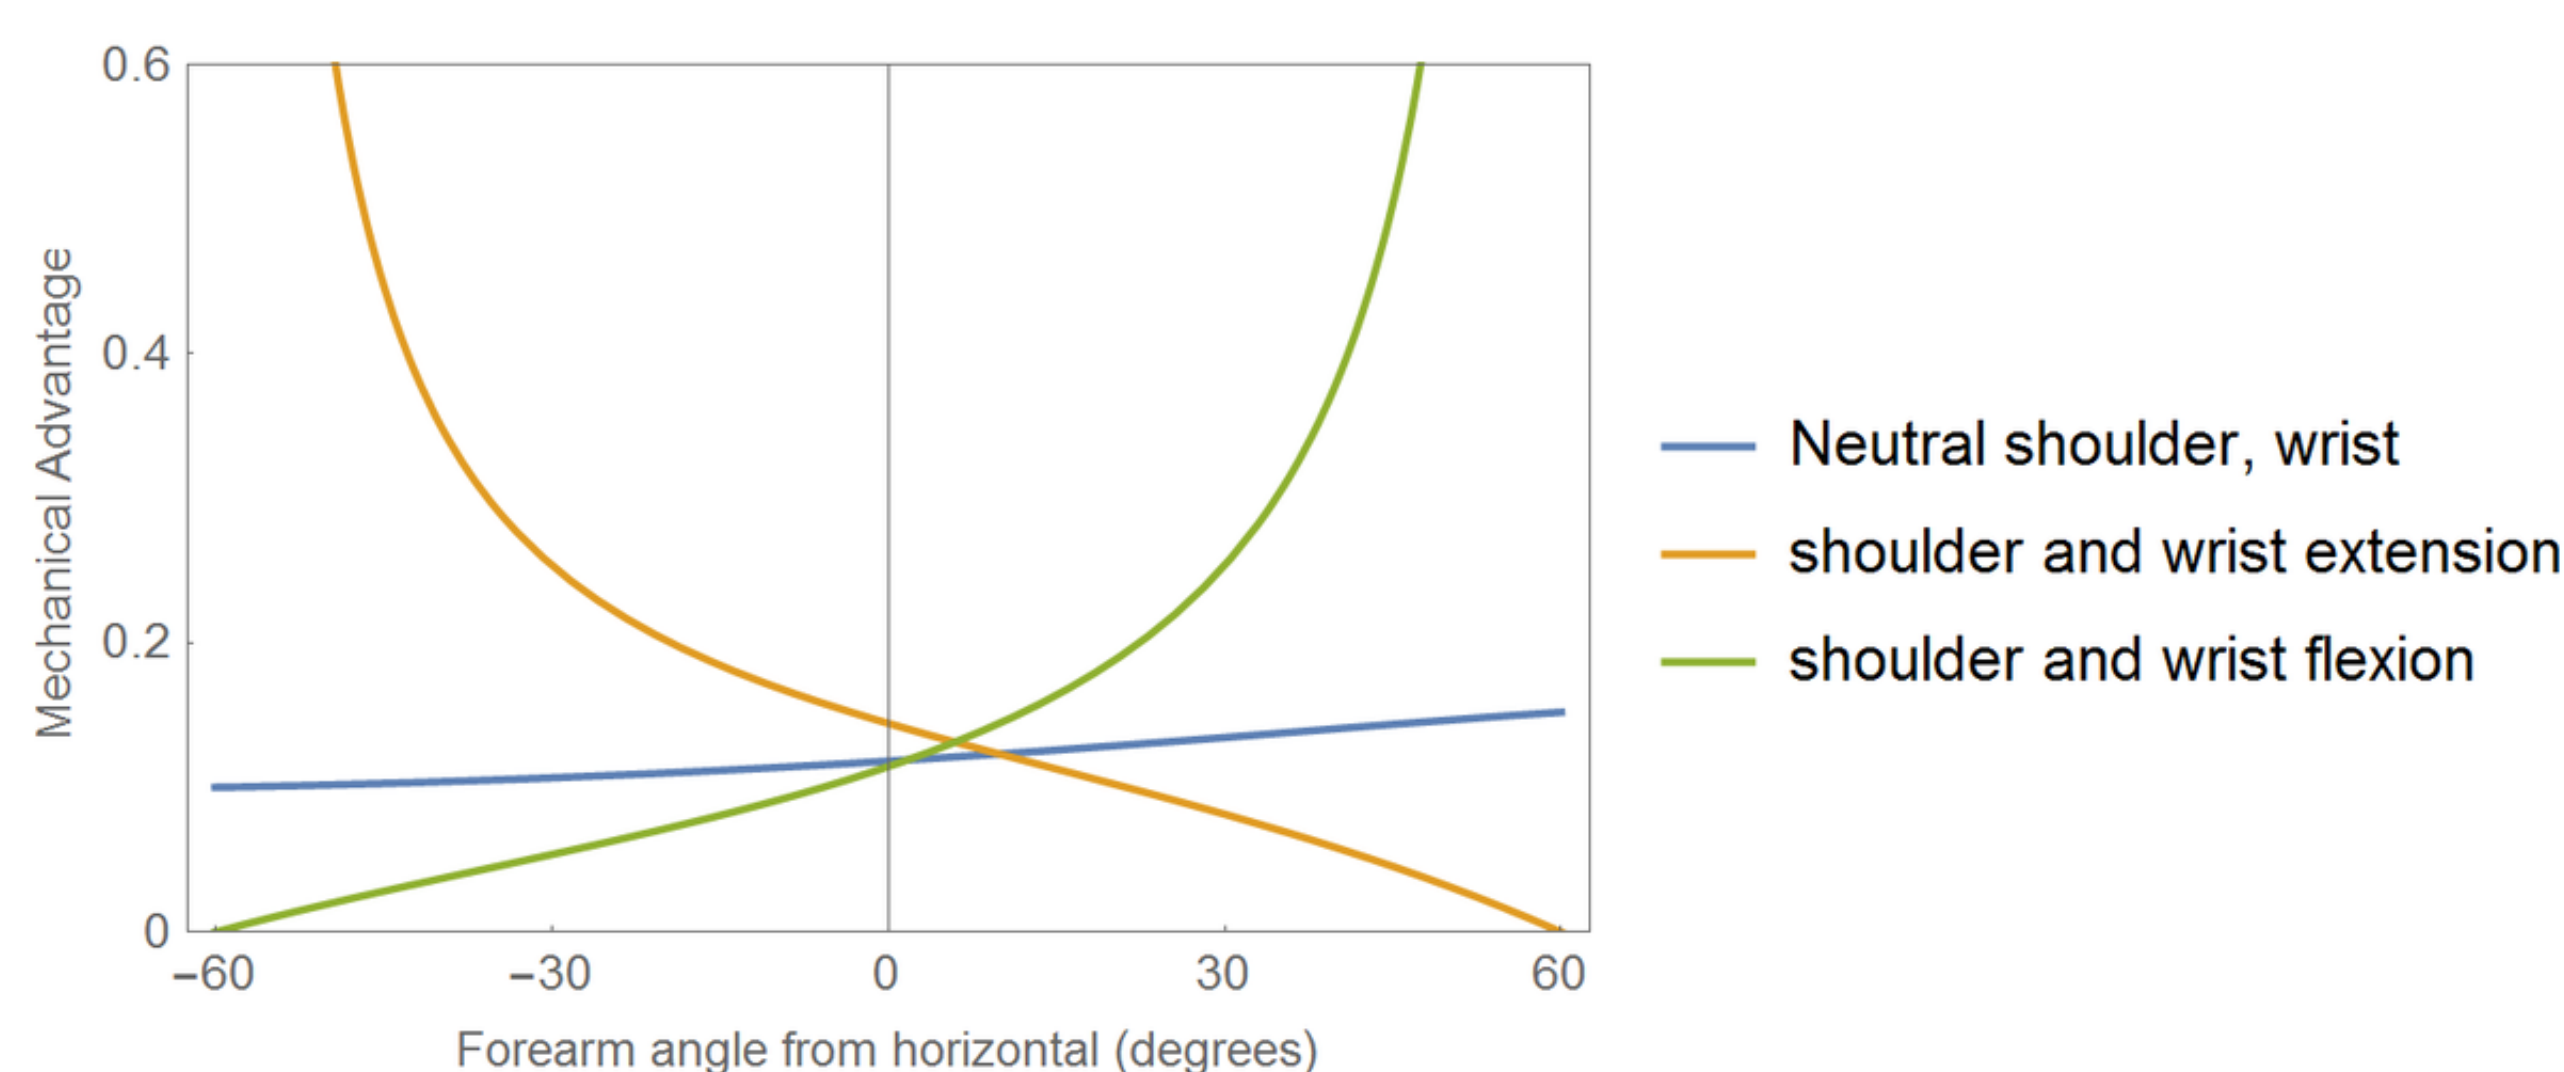

Fig 4. Mechanical advantage as a function of forearm angle for three fixed shoulder and wrist positions.
- Students interpret the result in Fig 4 (at right) to see that a simple extension to the lever model recovers the expected behavior.
During a natural curling motion, the shoulder and wrist also bend. In Figure 4, the mechanical advantage is plotted for three sets of fixed shoulder and wrist angles. To compare “apples to apples”, the x-axis is the orientation of the forearm  $\theta = 90^\circ - (\alpha + \beta)$ .